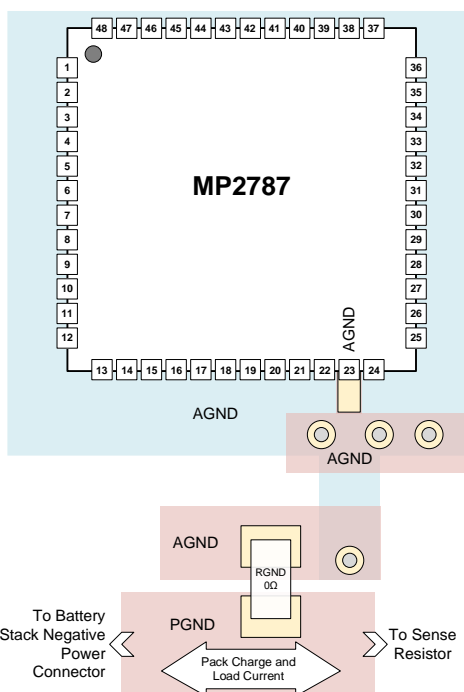
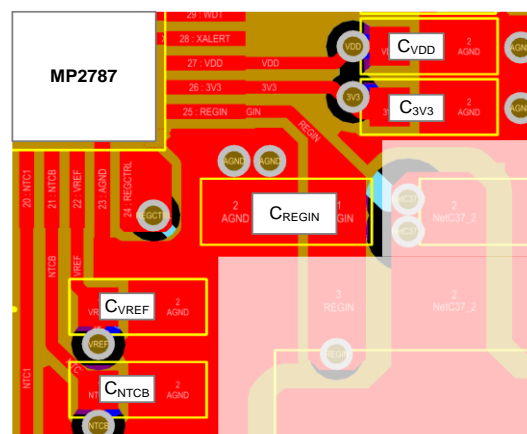
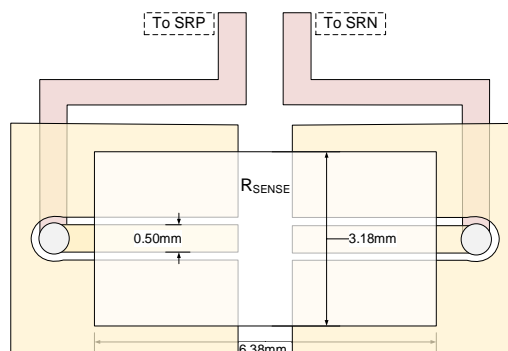

Figure 21: Recommended Layout for AGND
Figure 22: Recommended Layout for Decoupling Capacitors
Figure 23: 2512 Sense Resistor Using 4-Wire Footprint
Proper PCB layout is critical to reduce noise, and to optimize the device's accuracy and reliability. For the best results, refer to Figure 21, Figure 22, and Figure 23, and follow the guidelines below:
1. Route the ground plane such that it reduces ground noise and prevents stray current (see Figure 21).
to each pin. Minimize the trace inductance from these pins to AGND (see Figure 22).
6. Consider Kelvin connections at the sense resistor. A sense resistor with a dedicated sensing pad is ideal. A simple, two-terminal sense resistor can be used in a 4-wire sensing configuration (see Figure 23).